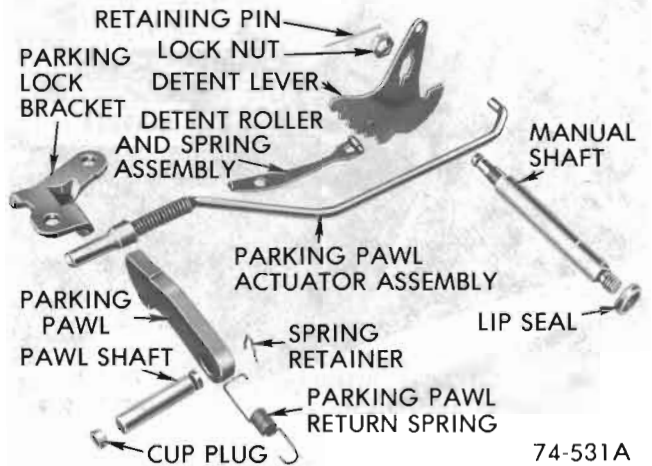

Figure 76-75
d. Remove manual shaft and jam nut from case. See Figure 76-75.